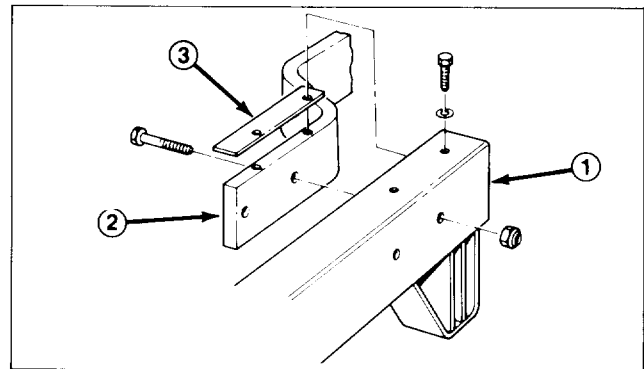

Figure 2
1. Align carrier frame mounting holes with mounting holes in traction frame, while positioning shim on top of traction frame and aligning mounting holes (Fig. 2).
2. Secure each side with (2) 3/8-16 x 1-3/4" lg. capscrews and locknuts. Locknuts must be positioned outside carrier frame.
3. Secure top of each carrier frame and shim to traction frame with (2) 3/8-16 x 7/8" lg. patch lock